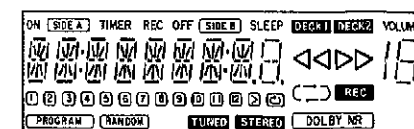

Fig. 5
- Press the "8" button on the remote controller. All indications will appear for about 1 second on the LCD. (Refer to Fig. 5.)